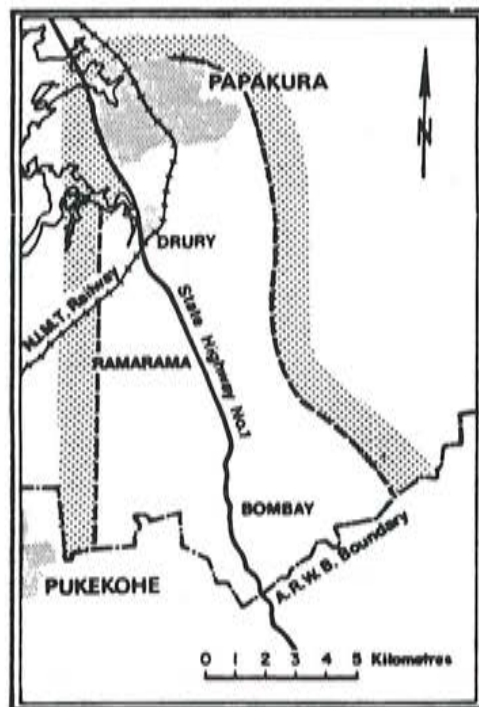

Figure 1. Drury/Bombay Study Area.
A study into the groundwater resources of the Drury/Bombay area (see Figure 1) is currently being undertaken by the Auckland Regional Water Board. This was initiated in 1988 for the following reasons:
2. All new water right applications (not covered by 1 above) which apply to take groundwater from the basalt/sand aquifer in the area defined in Figure 1 be deferred until March 1991, or the adoption of a management plan for the Bombay Drury area.